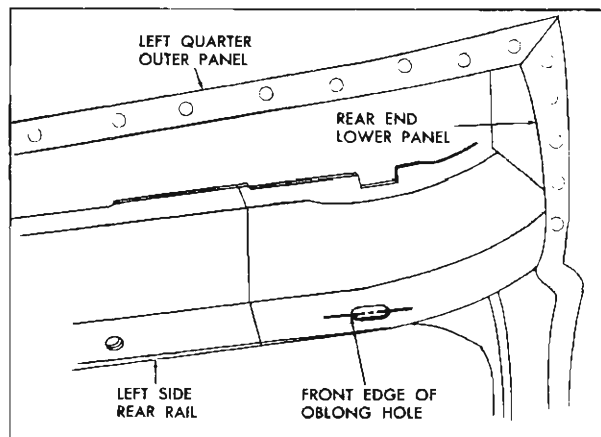

Fig. 11-4 Vertical Reference Point ("I")
j. Center front edge of oblong hole in bottom surface of compartment pan side rear rail (located slightly forward of rear end lower panel). See Fig. 11-4.